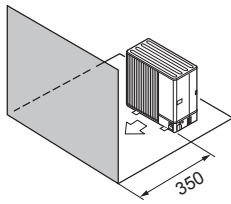

Fig. 1-10
- ④ Obstacles at front only (Fig. 1-10)